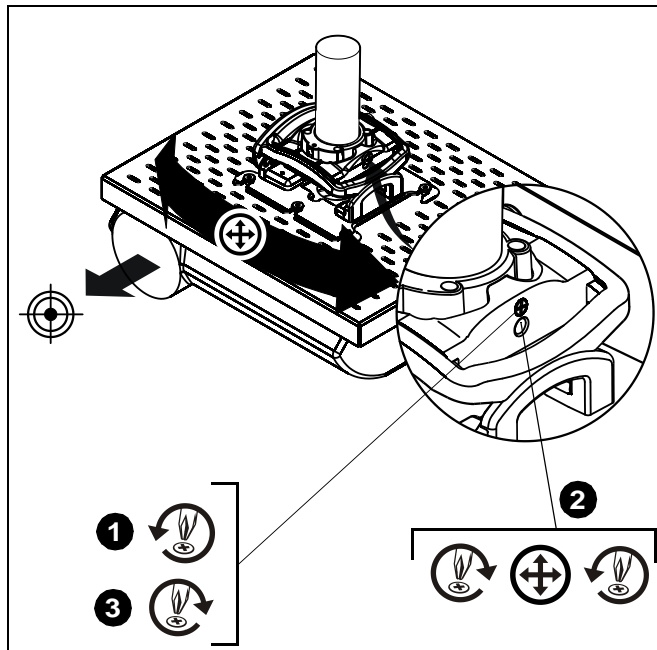

Figure 10
1. Loosen YAW adjustment locking screw using a #2 Phillips screwdriver. (See Figure 10)